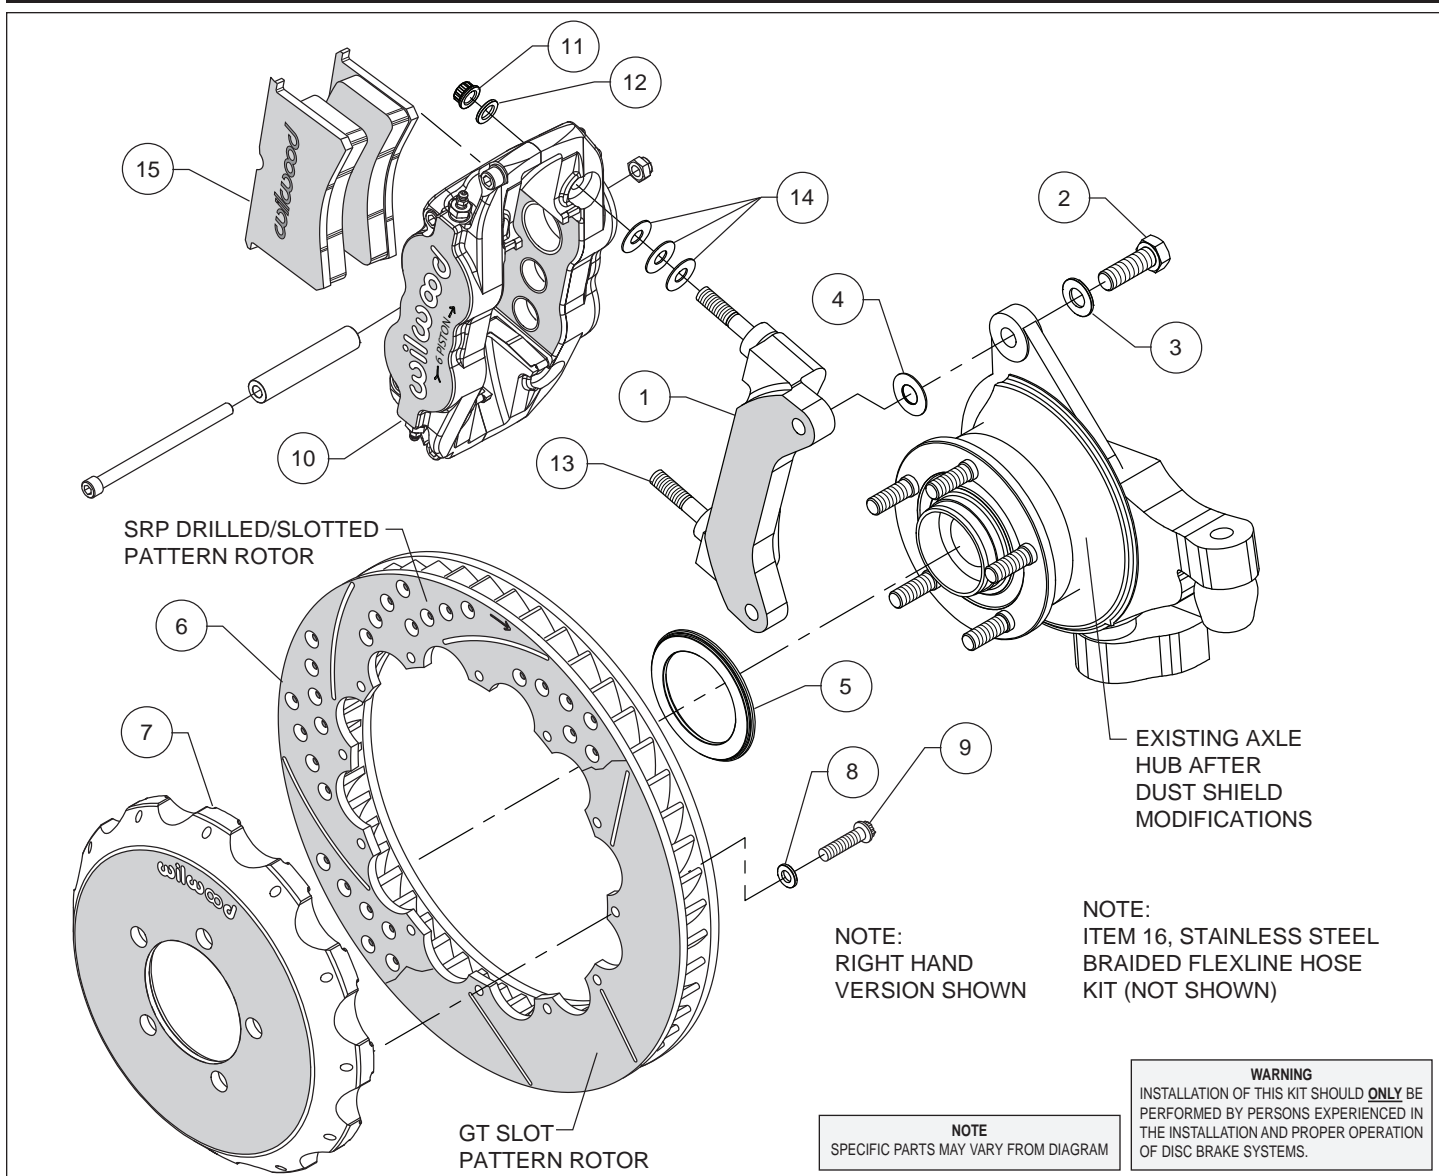
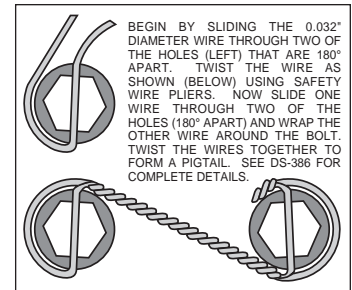

Figure 1. Typical Installation Configuration
Figure 4. Safety Wire Diagram
Assembly Instructions (numbers in parenthesis refer to the parts list and Figure 1 on the preceding pages):
- The caliper mount bracket (1) should initially be installed with clean, dry threads on the mounting bolts. Orient the bracket as shown in Figure 1, and install using washers (3) and bolts (2). Initially place one shim (4) on each bolt between the bracket and upright, Figure 1. Temporarily tighten the mounting bolts. **NOTE:** The bracket must fit squarely against the mount bosses on the upright. Inspect for interference from casting irregularities, machining ridges, burrs, etc. Later, after the caliper alignment has been checked, the mount bolts will be secured using red *Loctite*® 271.
- Orient the rotor (6) and the hat (7) as shown in Figure 1 and Photo 1. Attach rotor to hat using bolts (9) and washers (8). Using an alternating sequence, apply red *Loctite*® 271 to the threads, and torque to 155 **in-lbs**. For an added measure of security, the bolts may be safety wired using standard 0.032 inch diameter stainless steel safety wire as shown in Figure 4.
- Slide the rotor registration adapter (5) onto the axle register on the axle hub with the smaller O.D. facing outward, Photo 2. Slide the hat/rotor assembly onto the axle hub. **NOTE:** The hat must fit flush against the axle hub flange or excessive rotor run out may result. Install three lug nuts (finger tight) to keep the hat/rotor assembly in place while continuing with the installation.
- NOTE:** This kit contains distinct right and left hand calipers that must be mounted in a specific direction, as described below. Lubricate the caliper mounting studs (13) with lightweight oil. Initially place three .035" thick shims (14) on each stud as shown in Figure 1 and Photo 3. Mount the caliper (10) onto the bracket (1) using lock nuts (11) and washers (12), Figure 1. Ensure that the caliper is mounted so that the largest pistons are at the rotor exit end of the caliper, in relation to the direction of rotor rotation. Temporarily tighten the lock nuts and view the rotor through the top opening of the caliper. The rotor should be centered in the caliper, Photo 4. If not, adjust by adding or subtracting shims (4) between the bracket and the upright. Always use the same amount of shims on each of the two mounting bolts. Once the caliper alignment is correct, remove the bracket mounting bolts (2) one at a time, apply red *Loctite*® 271 to the threads, and torque to 60 ft-lb.